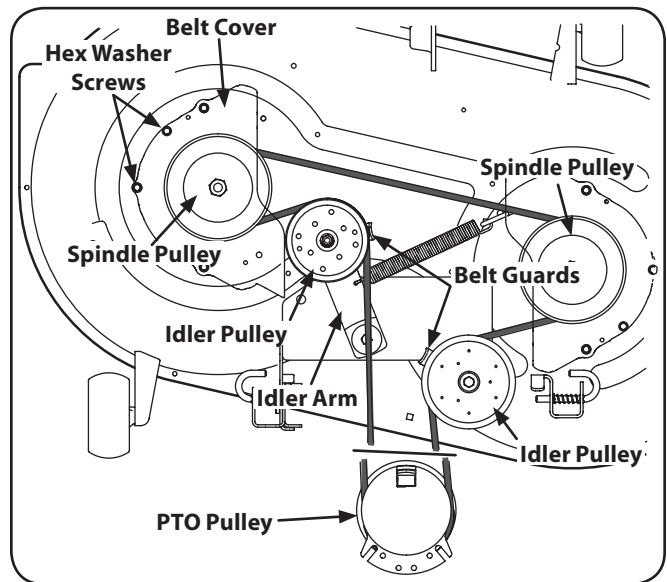

Figure 7-7
2. Remove the hex washer screws securing the belt covers to the deck. See Fig. 7-7.
5. Install the new belt around the spindle pulleys as shown and reinstall the belt covers. See Fig. 7-7.
7. Route the belt as shown in Figure 7-7 and then reinstall the deck.